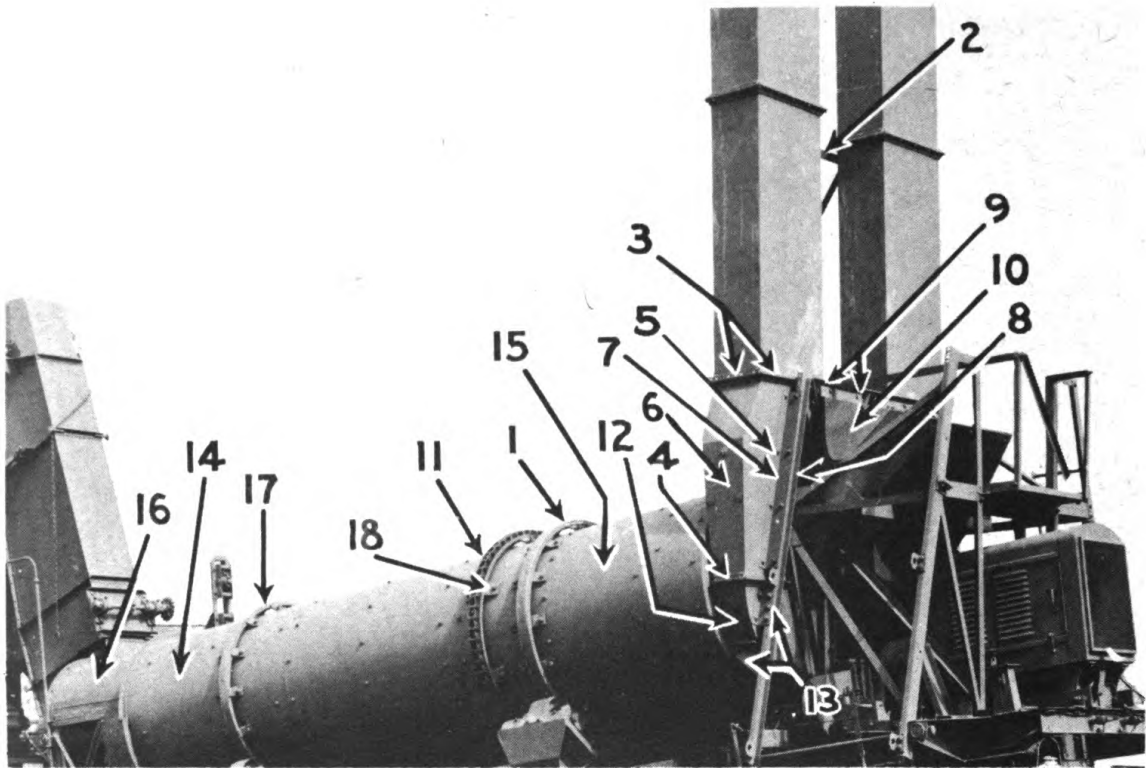

FIGURE 112
Assuming the Dryer is set up for operation, the drum tire (1) Fig. 112 is removed as follows:
3. Remove stack support mast (2) from stacks.
4. Remove bolts (3), that secure sections of stack. Do not remove hinge bolts.
6. Remove all bolts (4) that secure the two sections of stack bases. Also remove all bolts (5) that secure upper half of stack base (6) to the the angles (7) bolted to super-structure (8) and remove the upper section of stack base.
7. Remove bolts (9) that secure receiving hopper (10) to super structure and remove conical shaped receiving hopper.
8. Break the drum drive chain (11).
9. Remove the bottom section of stack base (12). This is done by removing the stack base support brackets (13) and turning stack base on the rim of drum until stack base can be removed from the side of Dryer.
10. Support the discharge end (14) of drum on timbers so that when charging end (15) of drum is raised the discharge end will not rest on top of combustion chamber, (16).